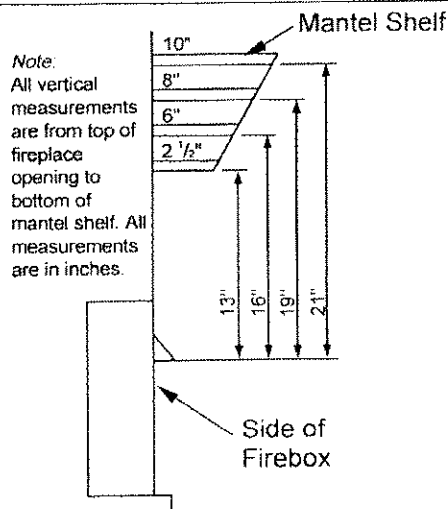

Figure 10 - Minimum Mantel Clearances for Built-In Installation
C. For mantel clearances, see Figure 10 on page 12.
Built-in installation of this fireplace involves installing fireplace into a framed-in enclosure. This makes the front of fireplace flush with wall. An optional trim kit accessory is available (see *Accessories*, pages 36 and 37). Trim will extend past sides of fireplace approximately 1/2 inch. This will cover the rough edges of the wall opening. If installing a built-in mantel above the fireplace, you must follow the clearances shown in Figure 10, page 12. Follow the instructions below to install the fireplace in this manner.